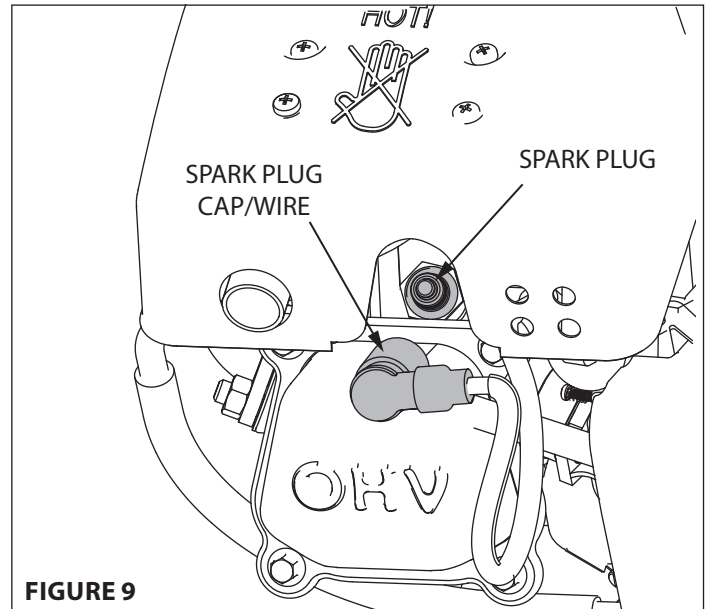

FIGURE 9
1. Detach spark plug wire and move away from spark plug. If the engine uses a battery, disconnect at negative terminal. **SEE FIGURE 9**